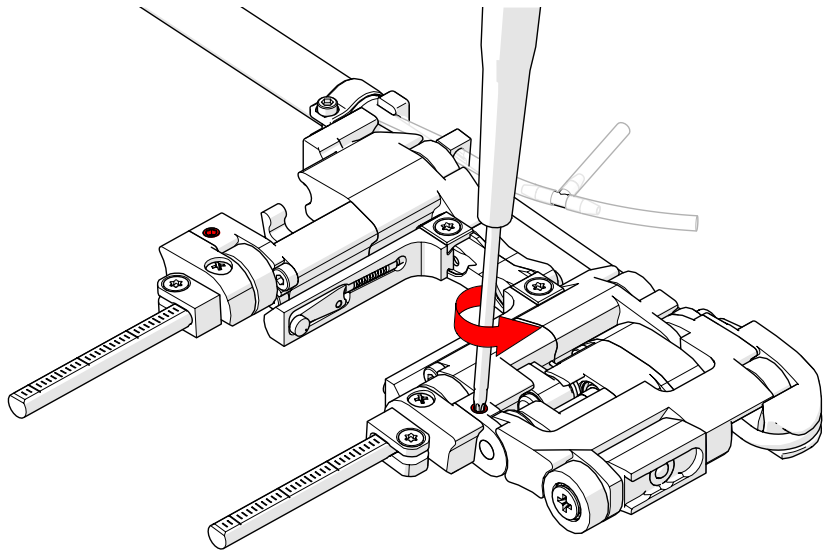

Fig. 81 - Loosen crossbar retaining screws
3. Use the Torx® driver to adequately loosen the crossbar retaining screws (Fig. 81).